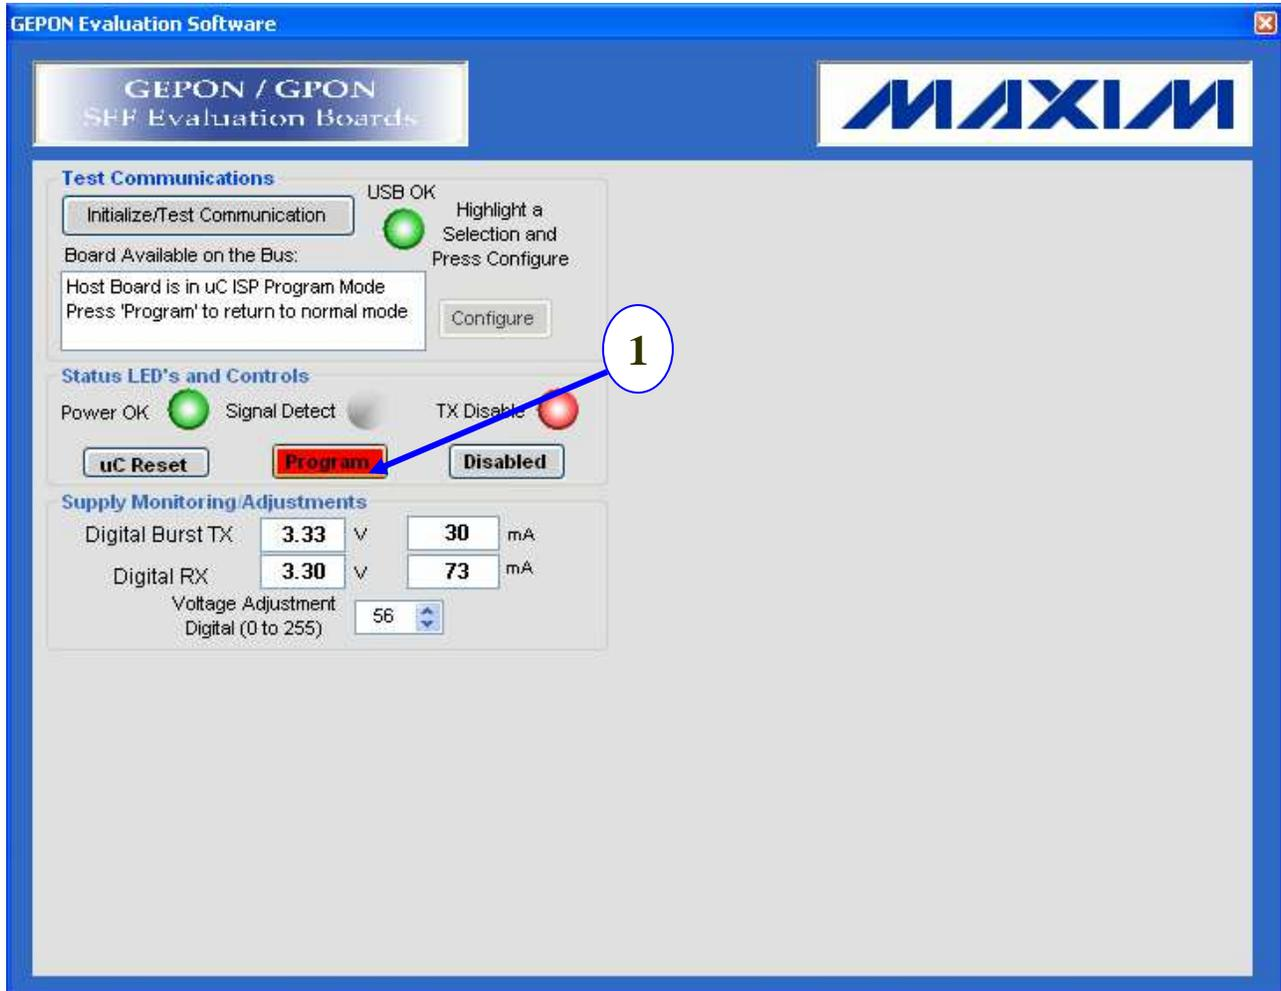

Figure 5. Programming mode.
The Atmel® microcontroller (ATTiny24) used on HFRD-25.2 can be in-system programmed using the J9 connector and an ISP programmer such as the AVRISP mkII (www.atmel.com). The evaluation board must be placed in programming mode (Figure 5) before the μ C can be in-system programmed. (Note: HFRD-25.2 is shipped preprogrammed.) Follow the AVRISP programmer guidelines when connecting to and programming the μ C on the HFRD-25.2 reference-design board.
1. **Normal/Program Button:** Pressing “Normal” or “Program” toggles the GUI operation between those modes. When in program mode (Figure 5), the μC can be programmed using an In-System Programmer (ISP) and the J9 connector. The software can be returned to normal mode by pressing either “Program” or “Initialize/Test Communications.”